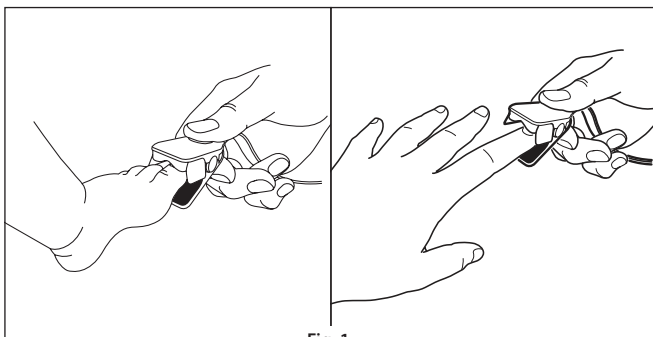

Fig. 1
1. Refer to **Fig. 1**. Orient the cable away from the sensor site. Open the sensor by pressing on the sensor indentations.